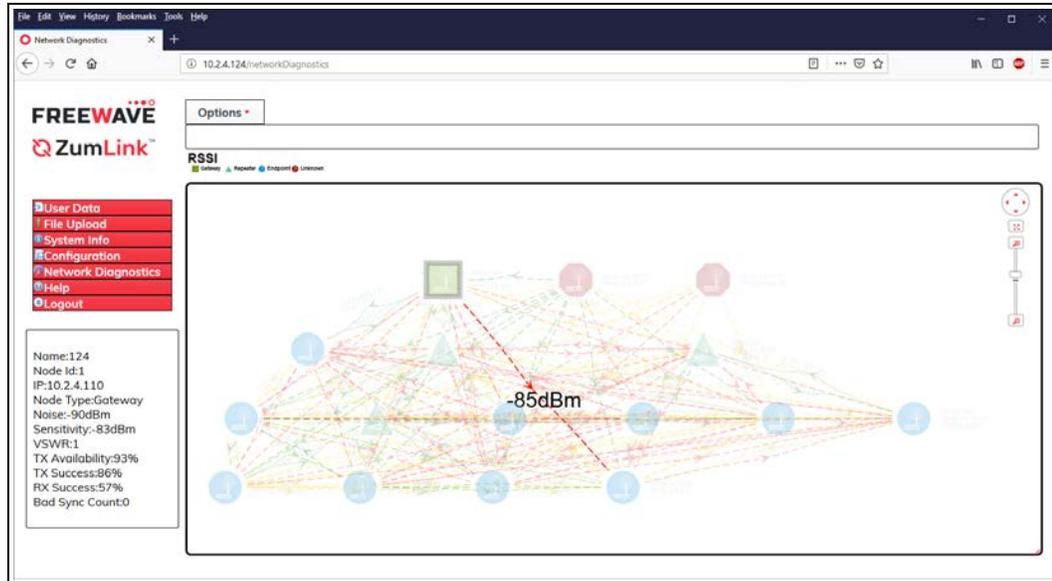

Figure 211: Network Diagnostics window - RSSI with Neighbors - Gateway-Endpoint Link
- Optional: Use the cursor to hover over the Gateway-Endpoint link to view the dBm rate. Figure 211